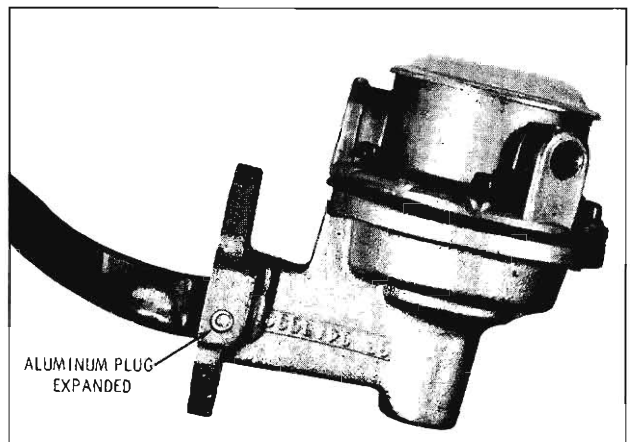

Fig. 3-486 Aluminum Plug Expanded
- c. Close the vise jaws until the expander tools just shoulder against the pump body. This properly expands the aluminum plugs in the pump body. (Fig. 3-486)